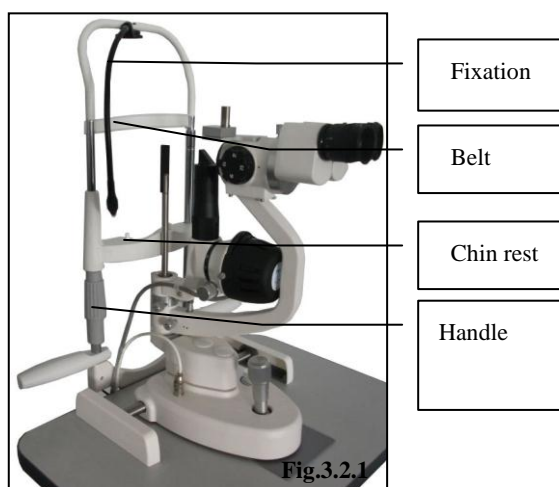

Fig.3.2.1
19. The fixation target is lighted (Fig.3.2.1)
- 1) The patient should put chin on the chin-rest and push forehead against the forehead belt. Adjust the elevation of chin-rest until the light of slit lamp projects to the correct position of patient's eye. (Fig.3.2.1).
- 2) The fixation target is used to attract patient's attention. Move the tube to put the fixation target at a proper position (Fig.3.2.1).